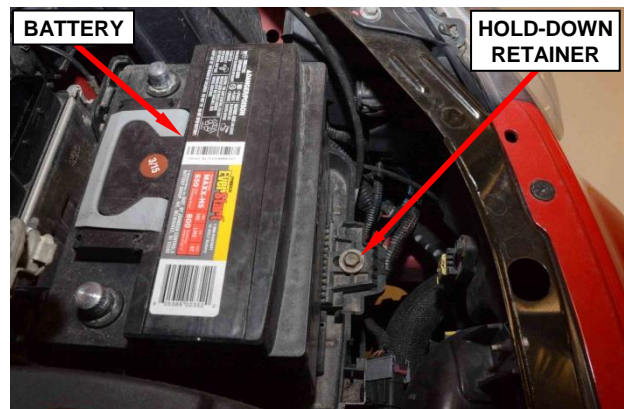

Figure 5 – Battery Hold-Down Retainer
8. Remove and save the battery hold-down retainer (Figure 5).
9. Remove and save the vehicle battery (Figure 5).